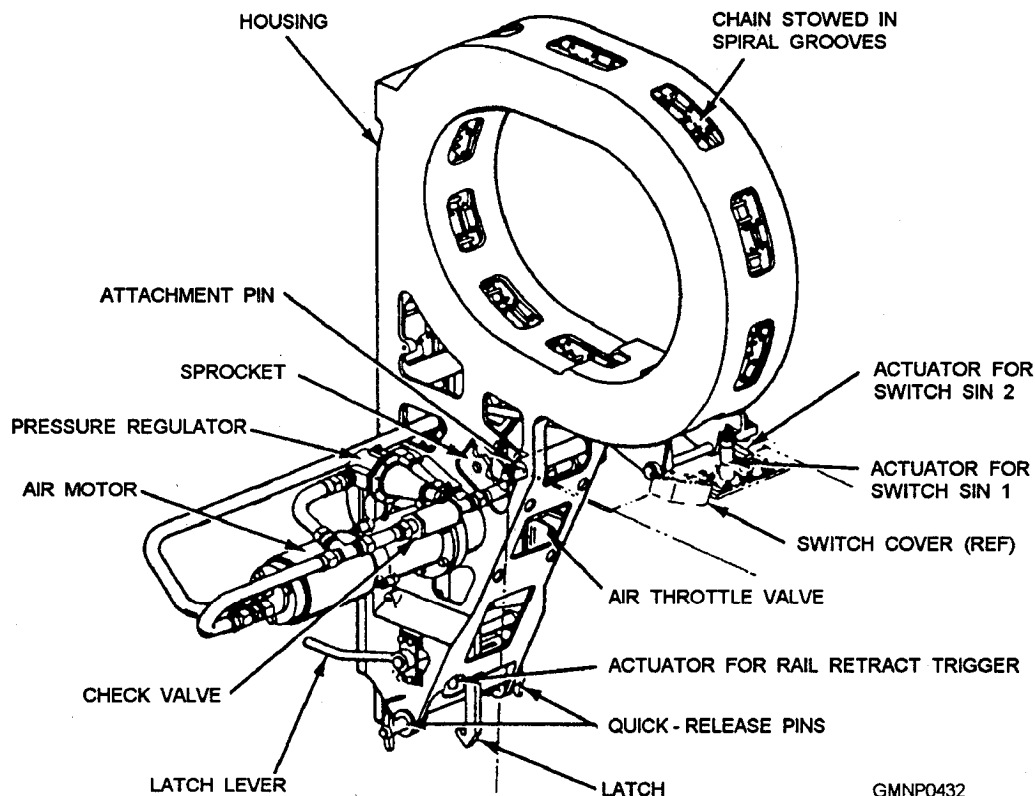

Figure 8-6.—Chain-drive fixture.
**CHAIN-DRIVE FIXTURE.**— The chain-drive (or strikedown) fixture is shown in figure 8-6. It is installed and locked to the front of the guide by two
After verifying that the aft-motion latch has fully extended, system personnel release the two chain latches. That is done by depressing a latch lever. See figure 8-6. The manual air-control valve handle is turned to RETRACT again. The chain is returned to its stowed position in the fixture. The manual air-control valve handle is placed in NEUTRAL to conclude air-drive operations.